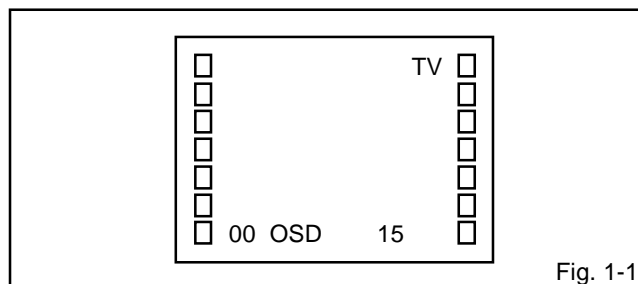

Fig. 1-1
2. Press the VOL. DOWN button on the set and the Channel button **(9)** on the remote control simultaneously to appear the adjustment mode on the screen as shown in **Fig. 1-1**.
4. Activate the adjustment mode display of **Fig. 1-1** and press the channel button **(03)** on the remote control to select "VIF VCO".
3. Activate the adjustment mode display of **Fig. 1-1** and press the channel button (**02**) on the remote control to select "RF DELAY".
5. Activate the adjustment mode display of **Fig. 1-1** and press the channel button (**01**) on the remote control to select "CUT OFF".
4. Activate the adjustment mode display of **Fig. 1-1** and press the channel button (**10**) on the remote control to select "R CUT OFF".
3. Activate the adjustment mode display of **Fig. 1-1** and press the channel button (**05**) on the remote control to select "H PHASE".
3. Activate the adjustment mode display of **Fig. 1-1** and press the channel button (**07**) on the remote control to select "V SHIFT".
3. Activate the adjustment mode display of **Fig. 1-1** and press the channel button (**06**) on the remote control to select "V SIZE".
3. Activate the adjustment mode display of **Fig. 1-1** and press the channel button (**13**) on the remote control to select "BRIGHTNESS".